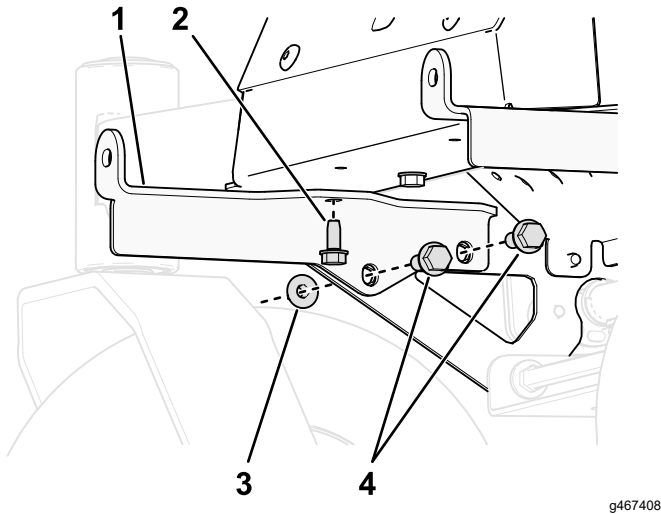

Figure 3
1. Install the left and right weight-mounting brackets to the under side of the frame using 3 bolts (3/8 x 1 inch) and 3 locknuts (3/8 inch) per side as shown in Figure 3.